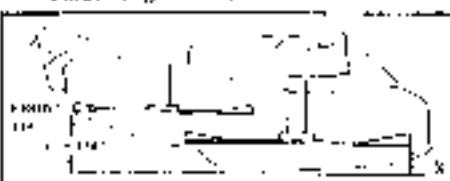

Figure 36. Levelling Mower
note that measurement. (See figure 36).
- 4 Measure the distance to the ground from the rear tips of the left and right blades. Compare these measurements with the measurement from the front tip of the center blade. The front tip of the center blade should be 1/4 inch (6 mm) higher than the rear tips of the side blades (figure 36).